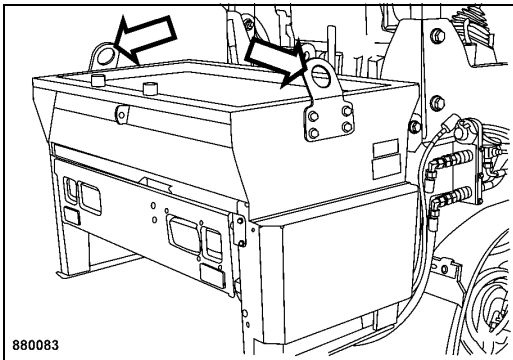

Fig. 88
- Lift the chip spreader by the lifting points (Fig. 88) and hook it carefully into the fixing points on the machine.